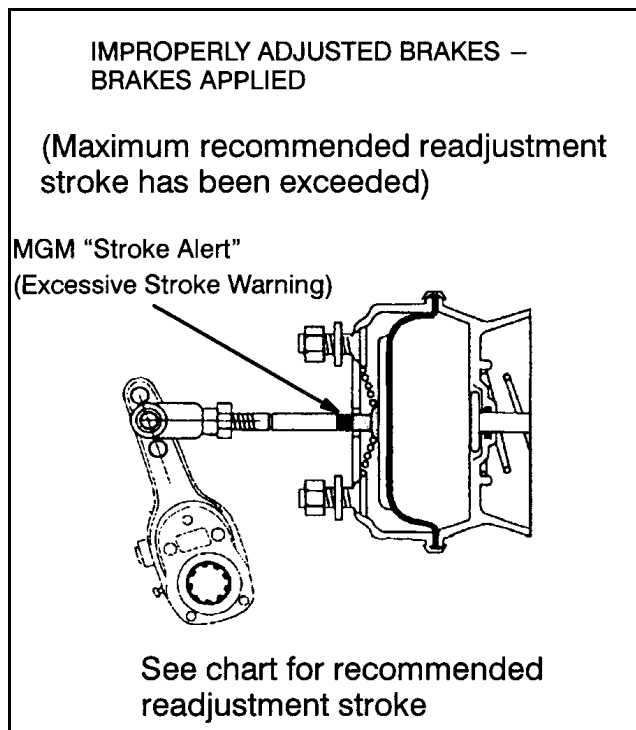

Figure 23 Improperly Adjusted Brakes - Brakes Applied
8.3. IMPROPERLY ADJUSTED BRAKES - BRAKES APPLIED (FIGURE 23(SEE FIGURE 23, PAGE 20))